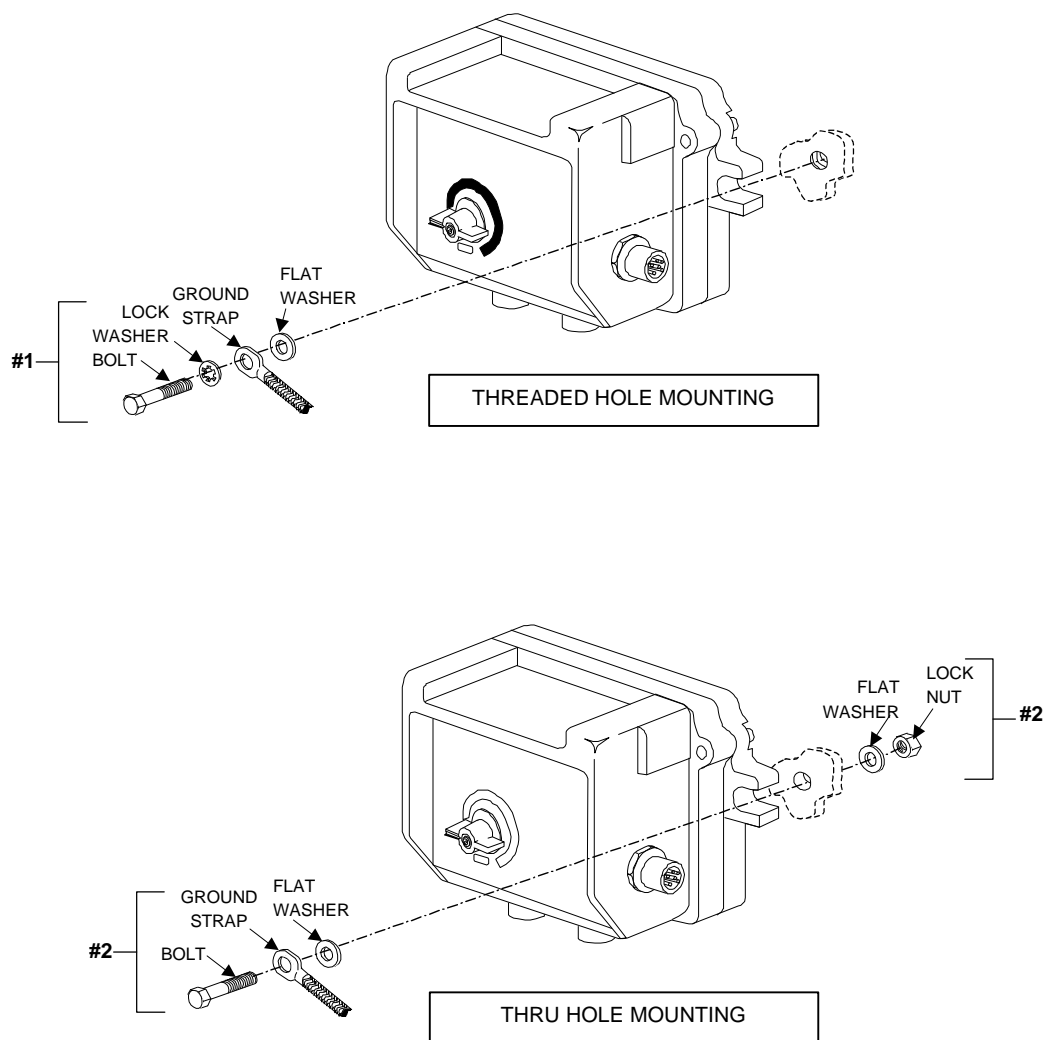

Figure 3-8. MOS Mounting Hardware Sequences
- Table 3-3 MOS Mounting Hardware (Fig. 3-8)
Table 3-3. MOS Mounting Hardware (Figure 3-8)